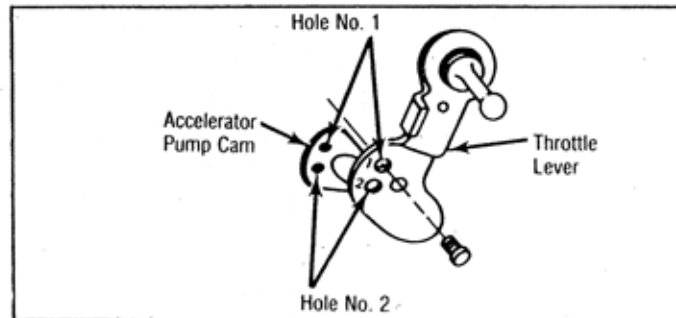

Fig. 6 Accelerator Pump Stroke Adjustment
1. Check accelerator pump cam to ensure cam retaining screw is positioned in specified hole in throttle lever. See Fig. 6.